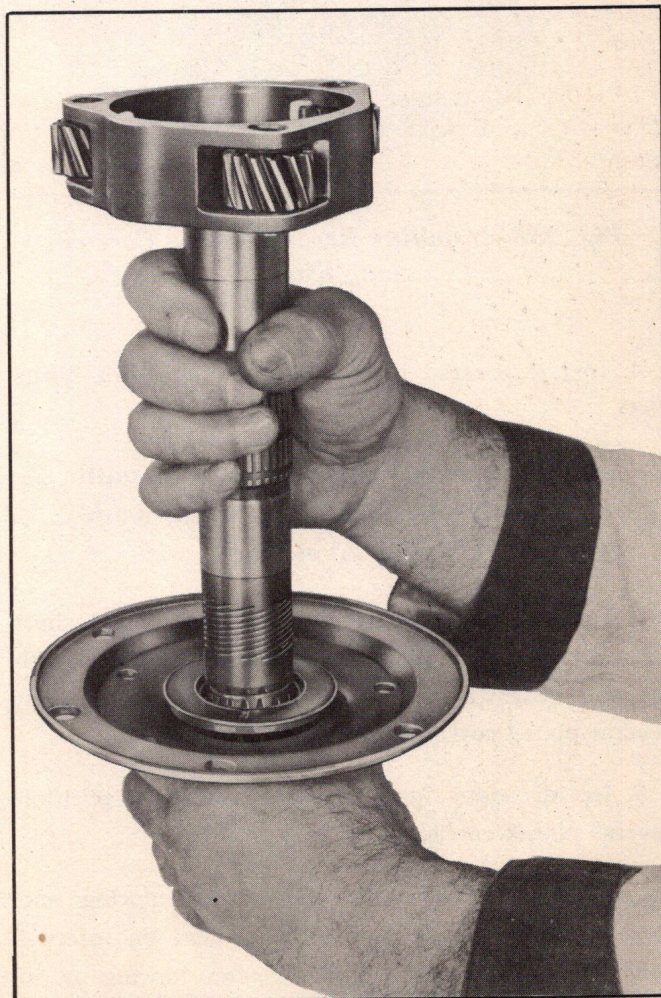

Fig. 257—Installing Output Shaft in Drive Flange
2. Still holding the reverse center gear in the left hand, pick up the output shaft with the right hand, insert output shaft end through drive flange and center gear until carrier bottoms on the two thrust washers (Fig. 257).